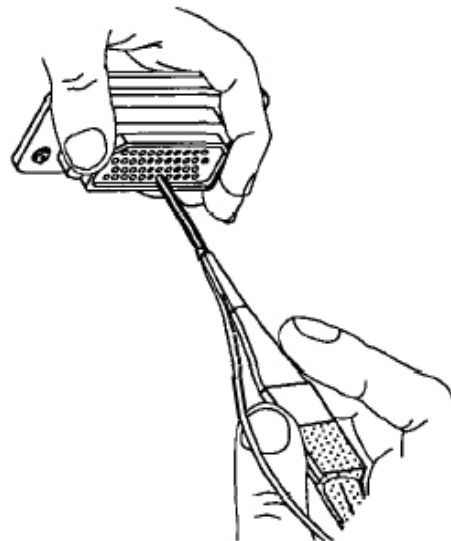

Figure 20. Removal Tool on Wire
c. Slide removal tool along wire at a right angle to connector insert face and align with contact cavity (Figure 20).